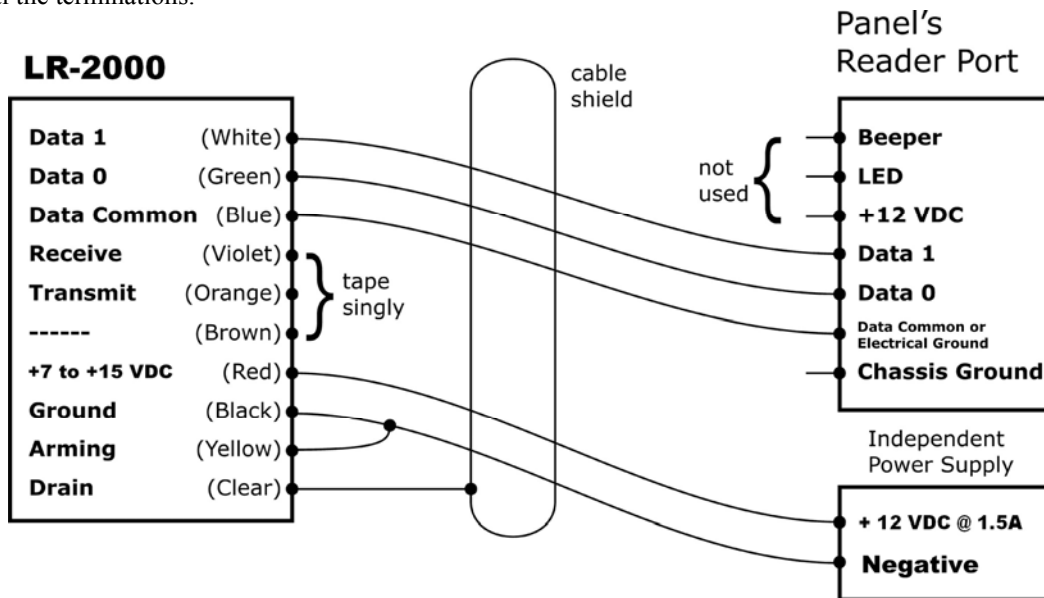

Figure 3. Wiring for LR-2000 installation.
5.3 WIRING THE READER (FOR WIEGAND INTERFACE -- Figure 3)